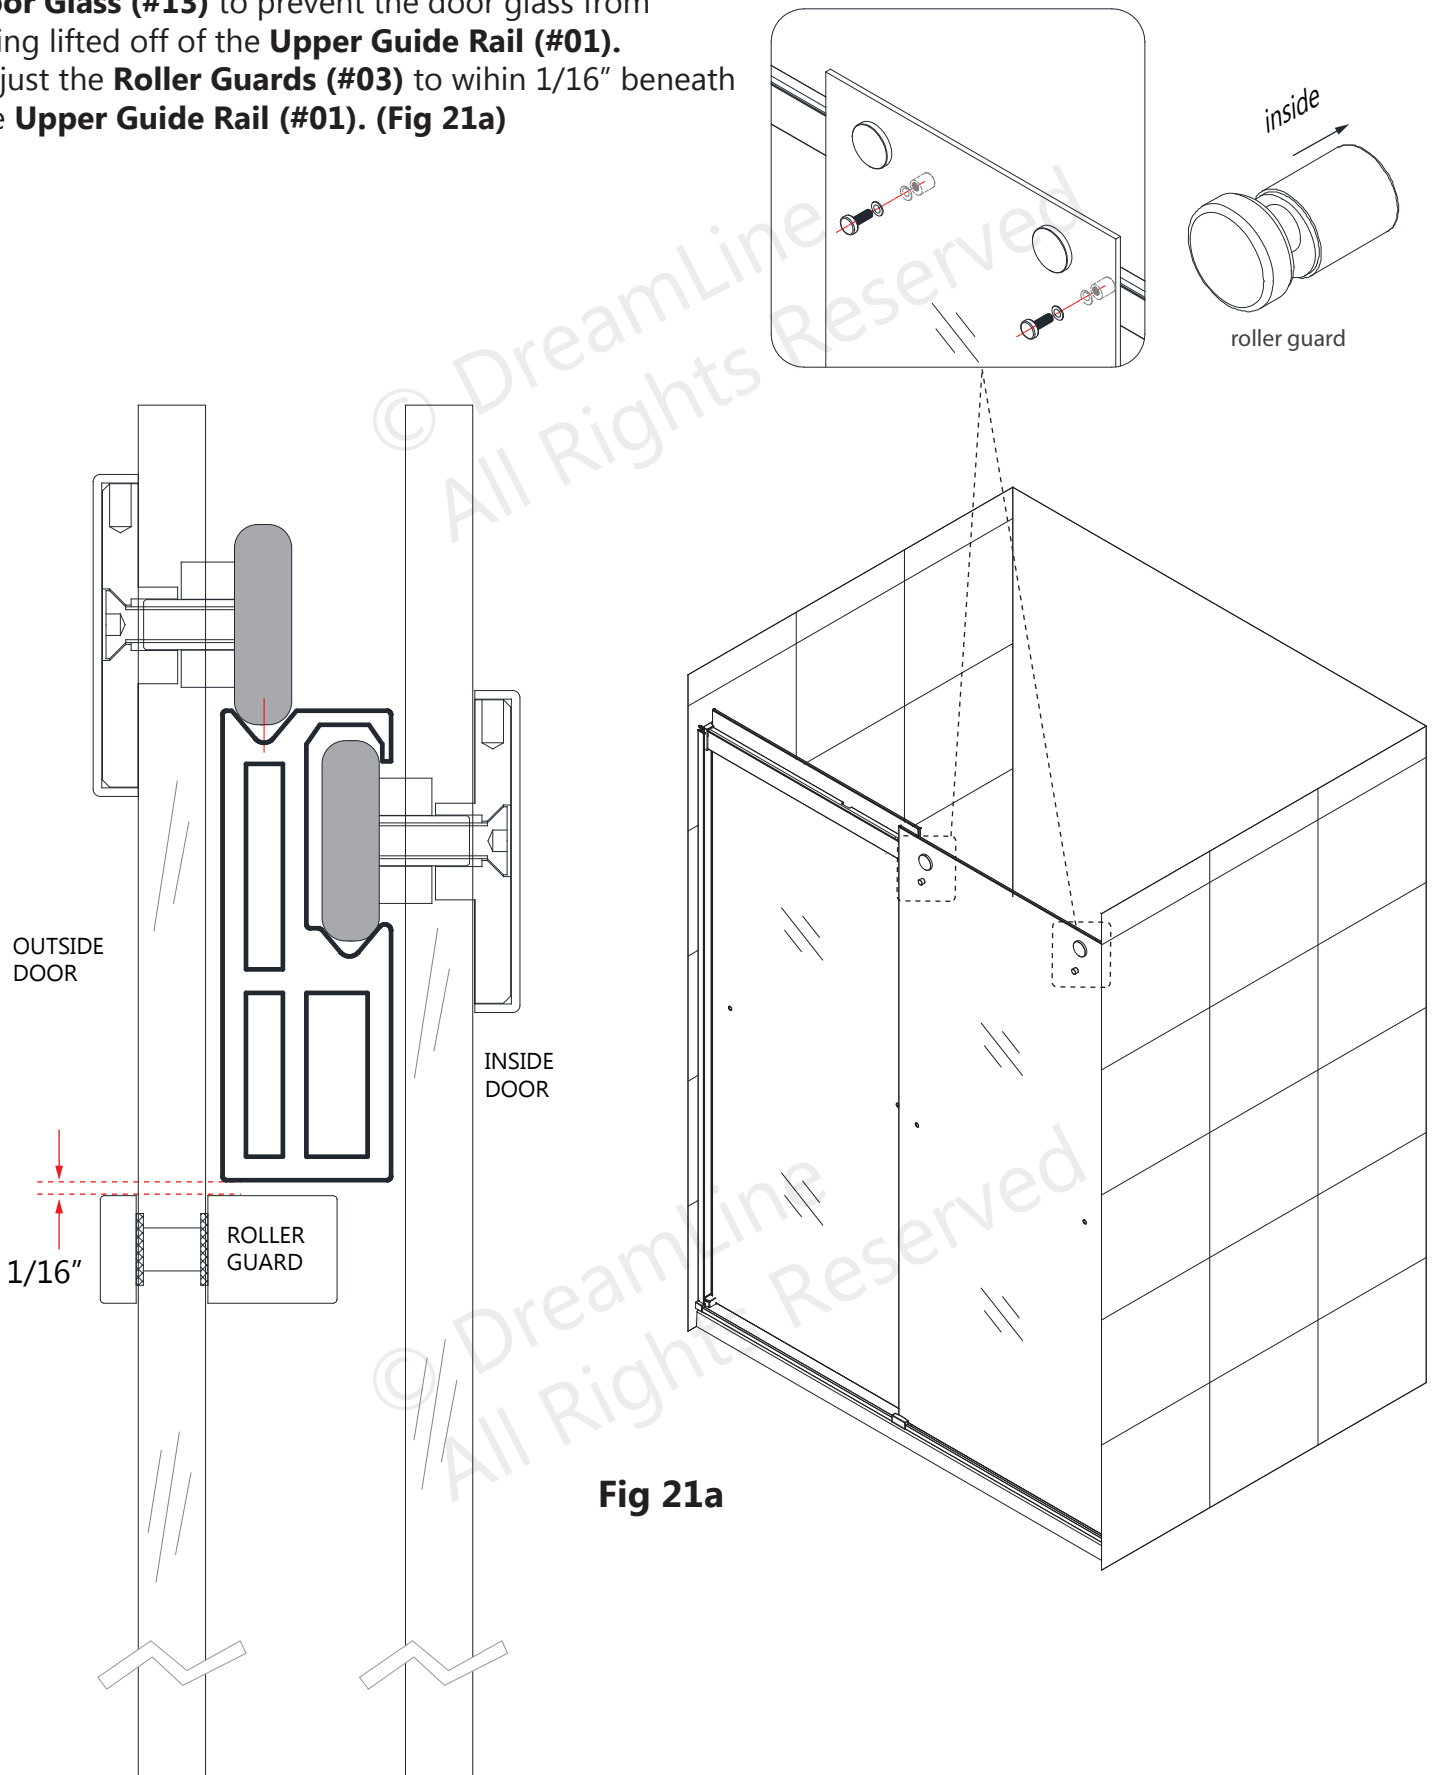

Fig 21a
21. Attach the **Roller Guards (#03)** to the **Outside Door Glass (#13)** to prevent the door glass from being lifted off of the **Upper Guide Rail (#01)**. Adjust the **Roller Guards (#03)** to within 1/16" beneath the **Upper Guide Rail (#01)**. (Fig 21a)
(Fig 21a and Fig 21b)